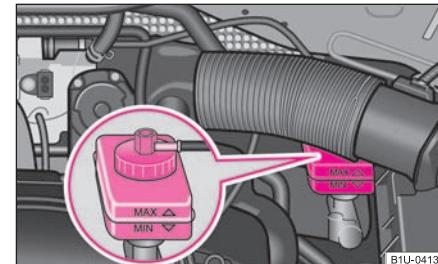

Fig. 149 Engine compartment: Brake fluid reservoir
- Inspect the brake fluid level in the reservoir ⇒ fig. 149. The level must be between the “MIN” and “MAX” markings.